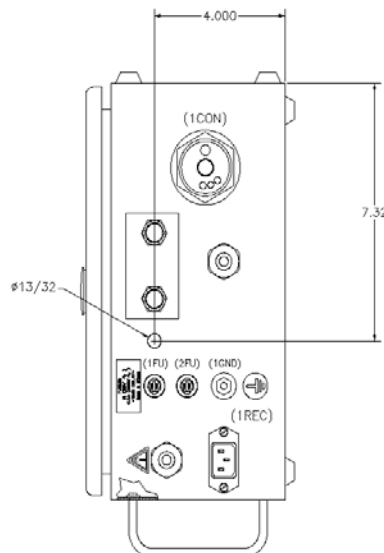

Figure 4
2. Remove the hole plug from the hole shown in Figure 4. If unit does not already have a hole in this location drill a 13/32" (10.3mm) hole at the location shown in Figure 4.